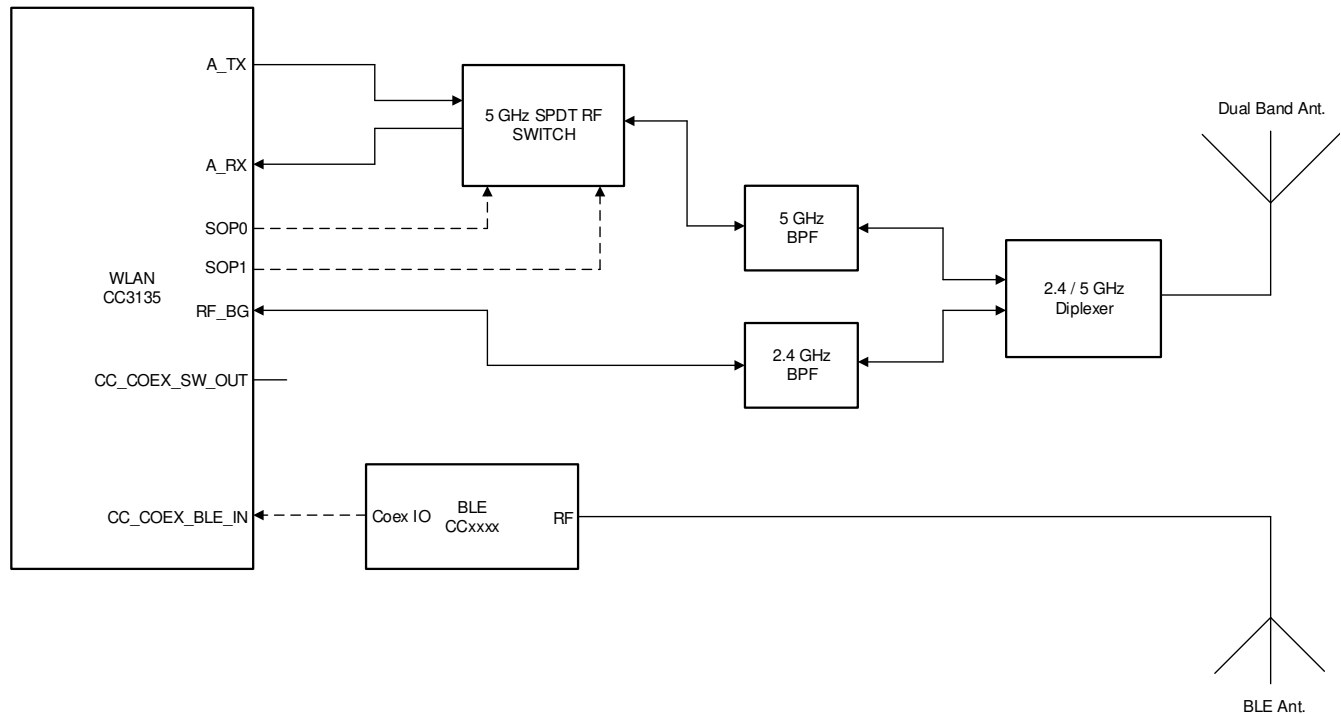

Figure 9-4. Dual Antenna Coexistence Solution with 5GHz Wi-Fi®
- 5GHz Wi-Fi band (see Figure 9-4)
Figure 9-4 shows the dual antenna implementation of a complete Bluetooth® low energy and WLAN coexistence network with the WLAN operating on either a 2.4- or a 5GHz band. In this case, the 2.4GHz and 5GHz Wi-Fi share an antenna and the BLE has it's own dedicated antenna. The SOP lines control the 5GHz switch. Note in this implementation no Coex switch is required and only a single GPIO from the BLE device to the CC3135 device is required.